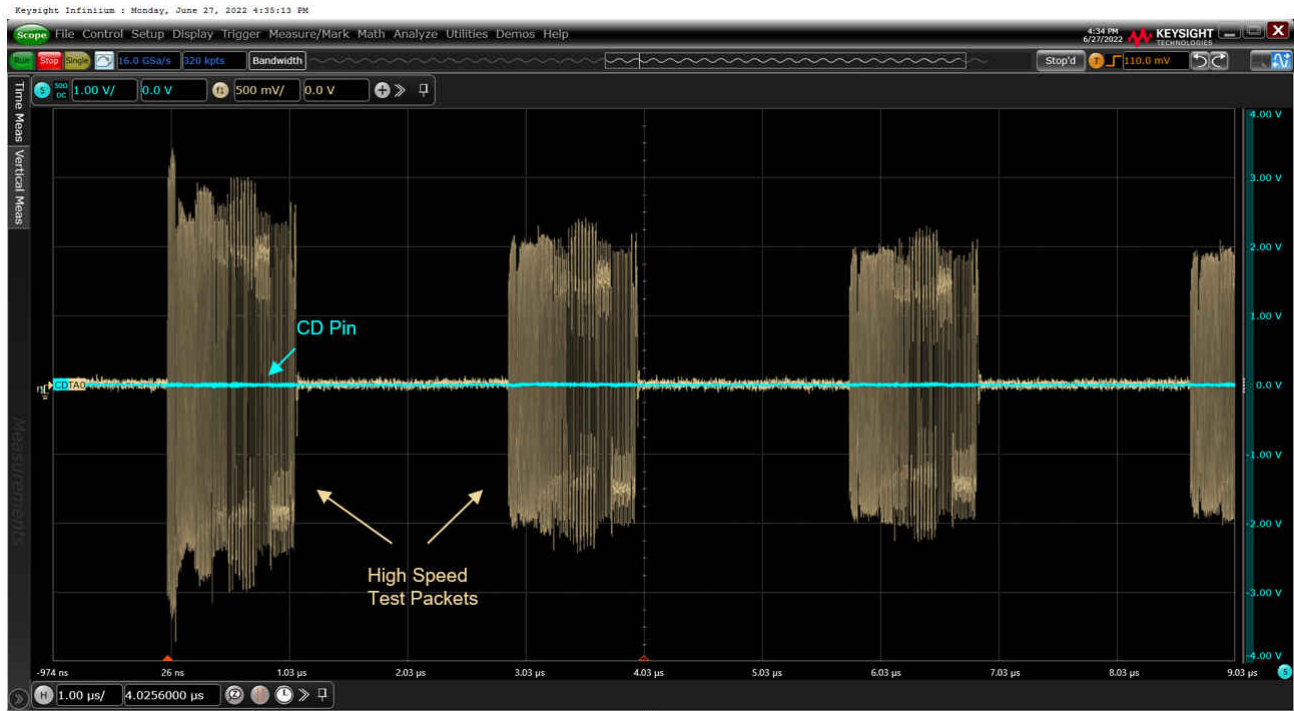

Figure 2-4. Host Mode Connection-Detected (CD) Status Flag
The connection-detected (CD) flag remains low during all steps of testing (Figure 2-4).